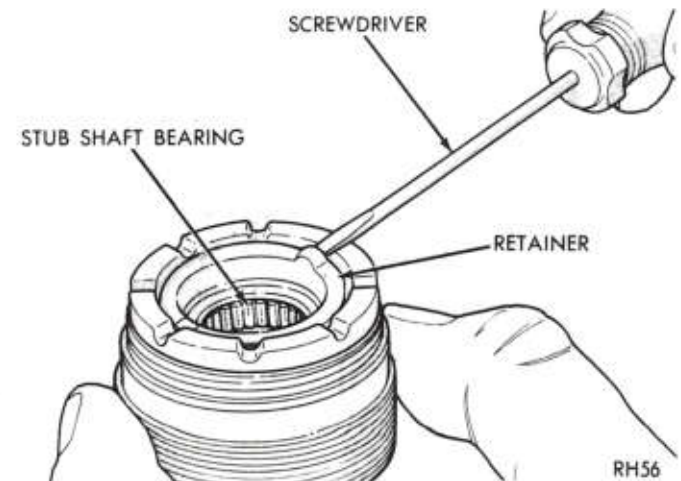

Fig. 11—Remove Thrust Bearing Retainer
(1) If only the oil seal is to be replaced, and not the bearing, thread the adjuster plug finger tight into housing. Using snap ring pliers C-3915, remove retainer. Pry out both dust seal and oil seal from adjuster plug bore using caution to avoid damage to the bore. Discard seals.
(2) If only the thrust bearing is to be replaced, pry out thrust bearing retainer at the two raised edges using a small screwdriver (Fig. 11). Remove spacer,